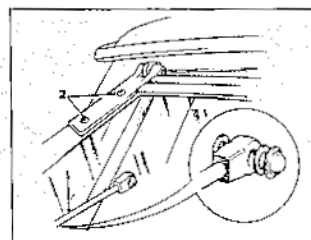

Fig. 12.6 The early model tailgate stay rod fixing (1) and hinge screws (2) (Sec 11)
- 1 Raise the tailgate and detach the support stay at one end. On early models prise free the retaining cap at the stay pivot, remove the plain washer and detach the stay (Fig. 12.6). On later models simply prise the stay itself from the pivot.